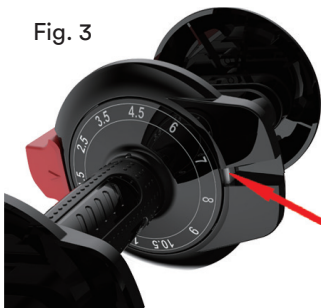

Fig. 3
- Use a screwdriver to press in the spring button (Fig. 3).